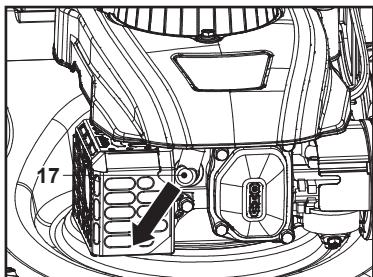

Fig. 25
1. Disconnect the spark plug connector (17) (Fig. 25).